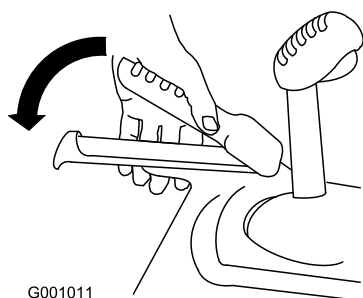

Figure 14
3. Squeeze the left hand (traction) lever to the hand-grip (Figure 14).
6. Squeeze the left hand (traction) lever to the hand-grip (Figure 14).